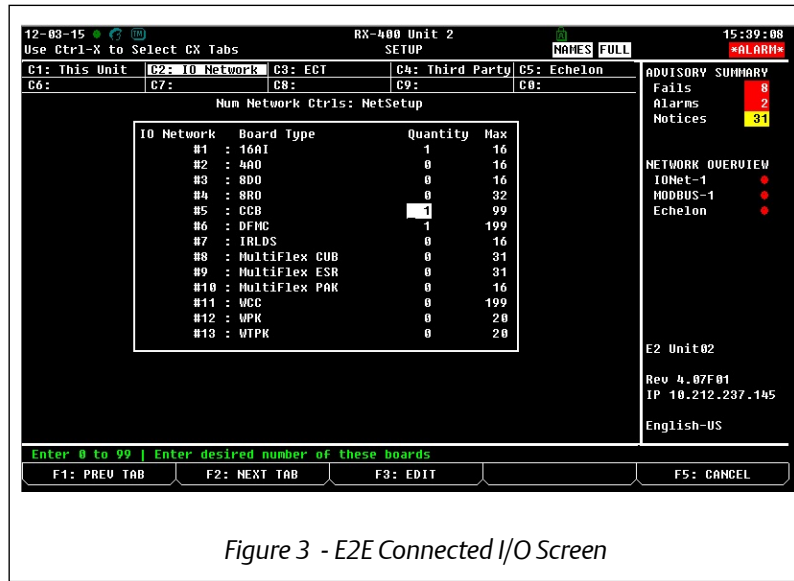

Figure 3 - E2E Connected I/O Screen
1. Press (*Connected I/O Boards and Controllers*). The *I/O Network* screen will open (*Figure 3*).